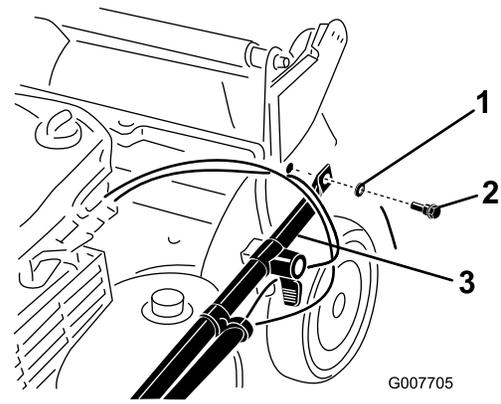

Figure 4
**Important:** Route the cables to the *outside* of the handle (Figure 4).
2. Attach the handle ends to the mower housing with 2 washers and 2 handle bolts (Figure 4), **but do not tighten the handle bolts.**